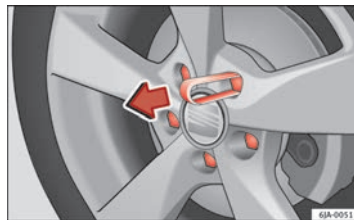

Fig. 120 Wheel: wheel bolts with caps
- Fit the plastic clip (vehicle tools) over the cap until it clicks into place ⇒ Fig. 120.